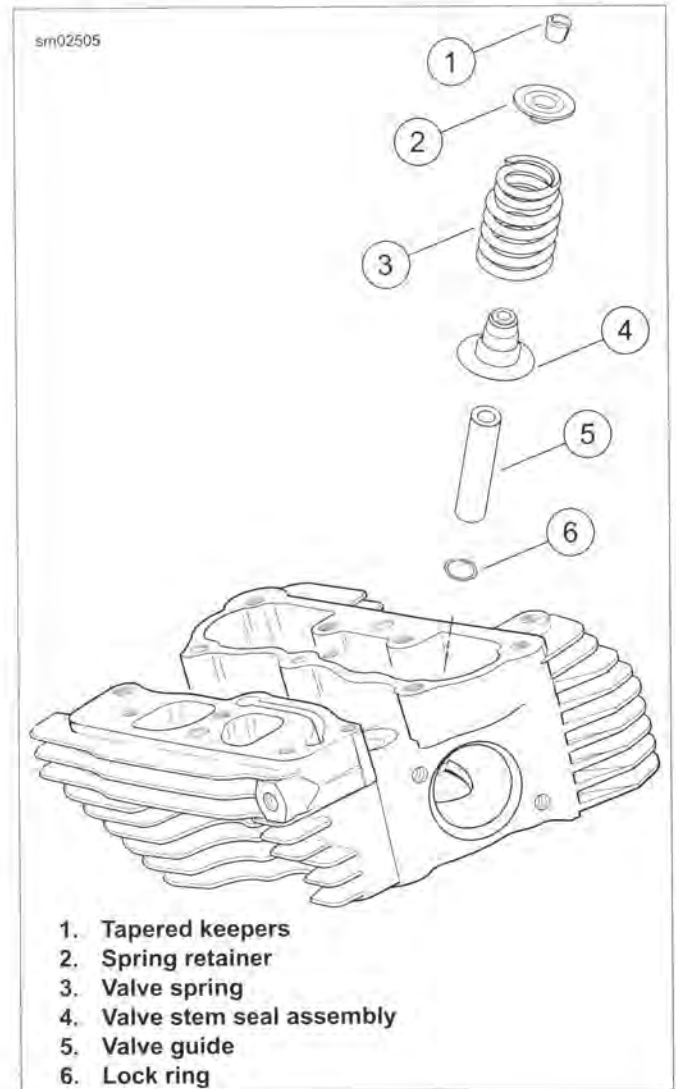

Figure 3-48. Valve Assembly
10. See Figure 3-48. Apply a liberal amount of SCREAMIN' EAGLE ASSEMBLY LUBE to valve stem tip and keeper groove.
11. With the smaller diameter coils topside, install the valve spring (3). Place the spring retainer (2) on top of the valve spring.